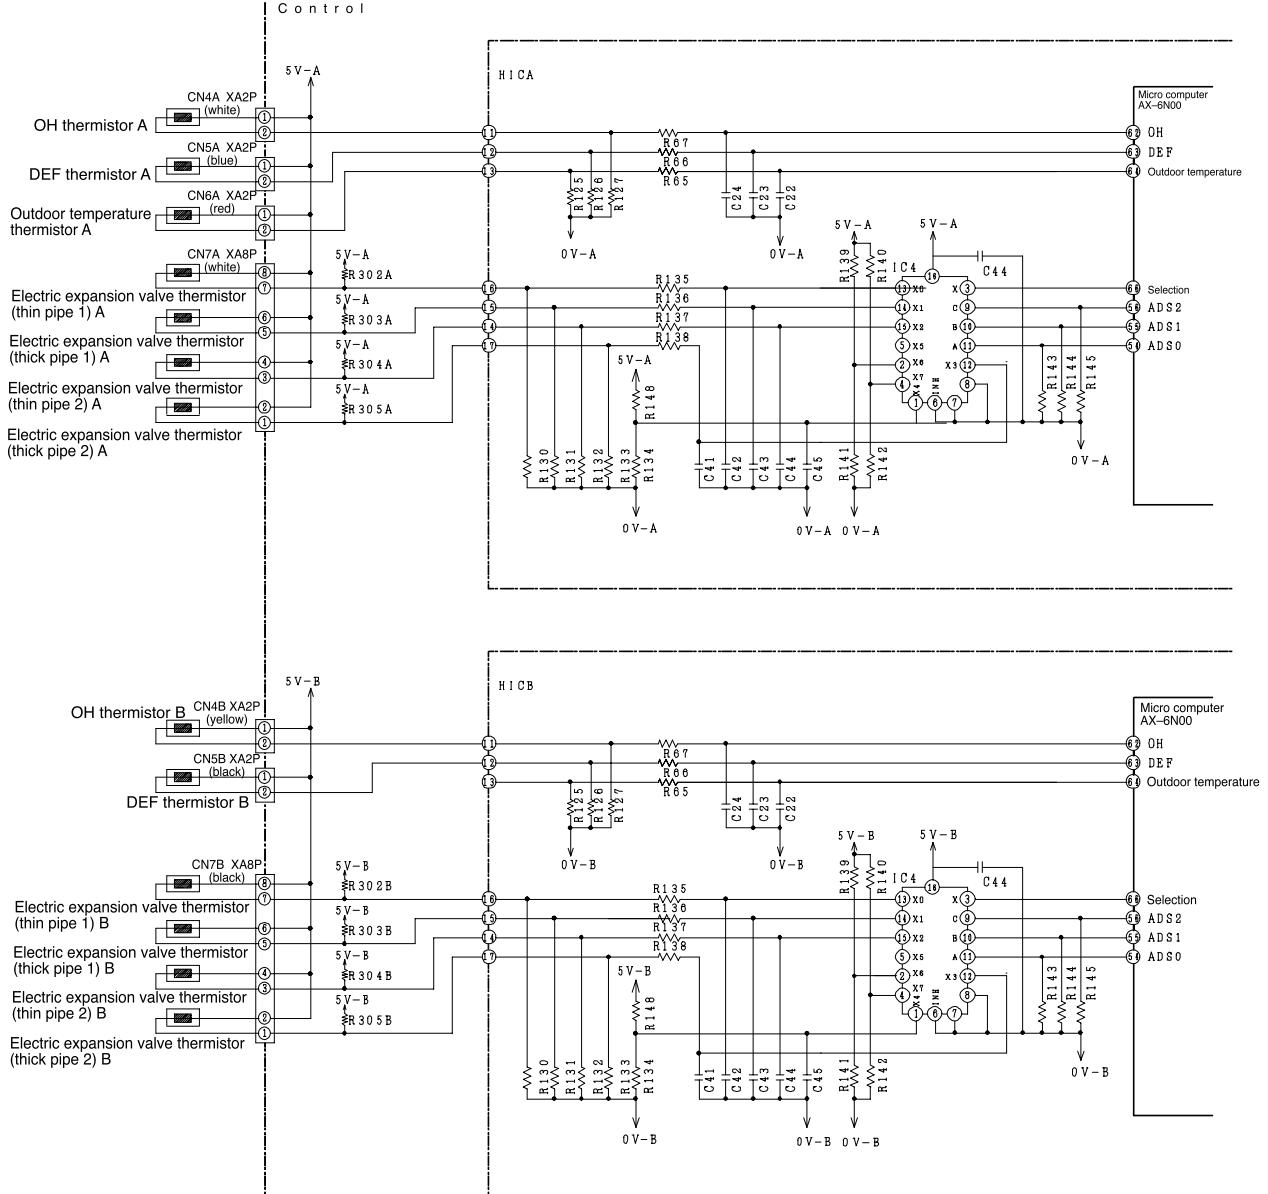

Fig. 6-1 Temperature Detection Circuit
- The circuit of the thermistors is shown as Fig. 6-1, and their roles and temperature measuring points are shown as Table 6-1. The DEF thermistor, OH thermistor and electric expansion valve thermistor are for A cycle and B cycle respectively. The outdoor temperature thermistor is common to A cycle and B cycle.